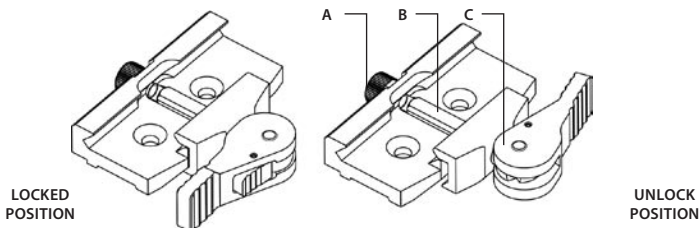

FIGURE 3-6. MOUNT. UNDERSIDE VIEW
4. Install the CO-MR on the Picatinny/ Weaver rail in front of the day scope; the stop (B, see Figure 3-6) should slide into one of the rail's transverse slots. The light suppressor should cover the day scope's objective lens.
To adjust the mount's clamping device, do the following (refer to Figure 3-6):